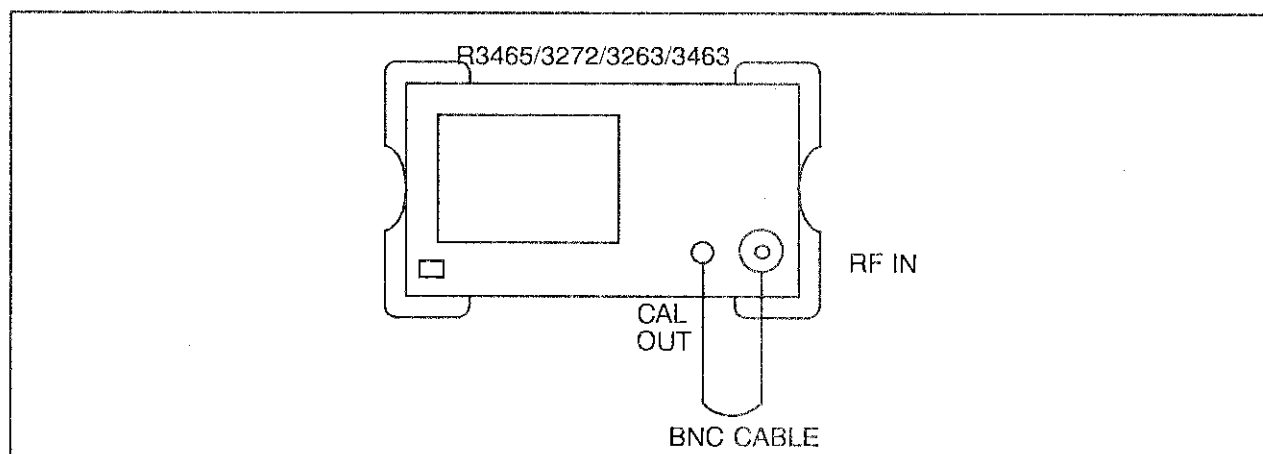

Figure 1-6 Resolution BW Switching Uncertainty Test Setup
(1) Connect the R3465/3272/3263/3463 CALOUT to the RF IN as shown in Figure 1-6.
(2) Press the , , ,  and  keys.